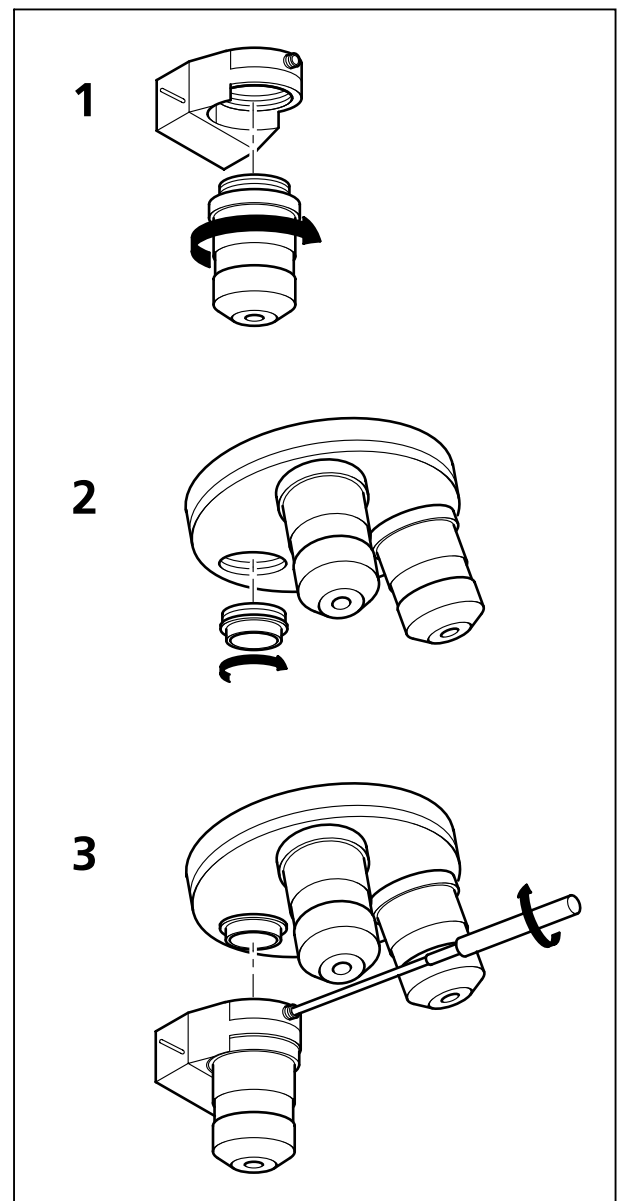

Fig. 7-2 Installation of the Piezo Objective Focusing Device
- Screw in your microscope objective into Piezo Objective Focusing Device (see Fig. 7-2/1).
- Screw the thread-ring into your microscope (see Fig. 7-2/2).
- Easy clamp the Piezo Objective Focusing Device on the thread-ring (see Fig. 7-2/3).